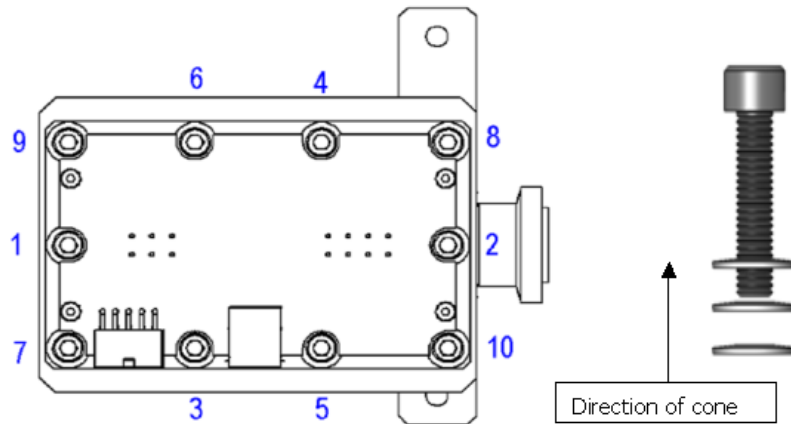

Figure 10: Direction of Cone
8. Loosen screws (item 1) and carefully remove the spectrometer header from the body. The vacuum system vents to atmosphere as the screws are loosened. Retain the socket head cap screws (item 1) and the Belleville washers (item 2). See line item 21 for correct orientation of the Belleville washers (Figure 10: Direction of Cone).
21. Insert a screw with three Belleville washers into each hole and finger tighten (Figure 10: Direction of Cone).
22. Following the pattern shown in Figure 10: Direction of Cone, torque screws to 40 in-lbs (4.5 N-m).
24. Wait a minimum of five minutes then torque the screws shown in pattern (Figure 10: Direction of Cone) to 90 in-lbs (10.2 N-m).